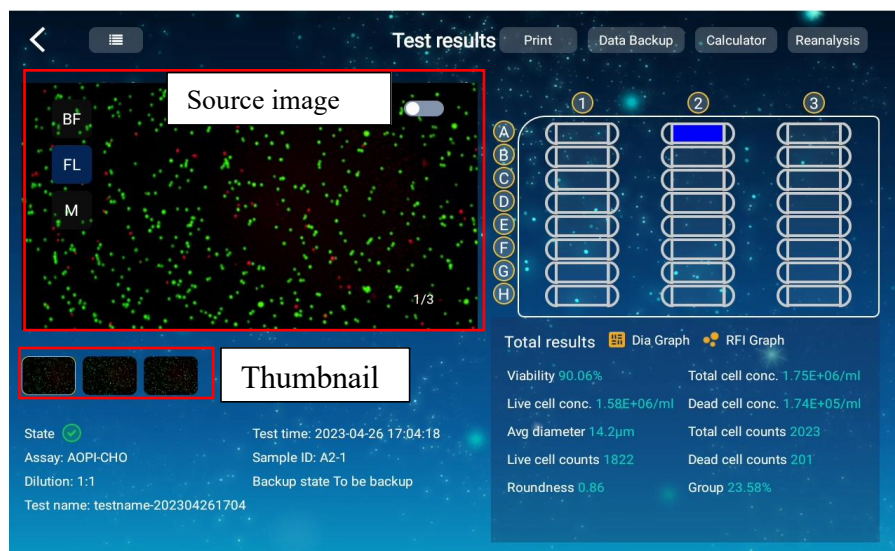
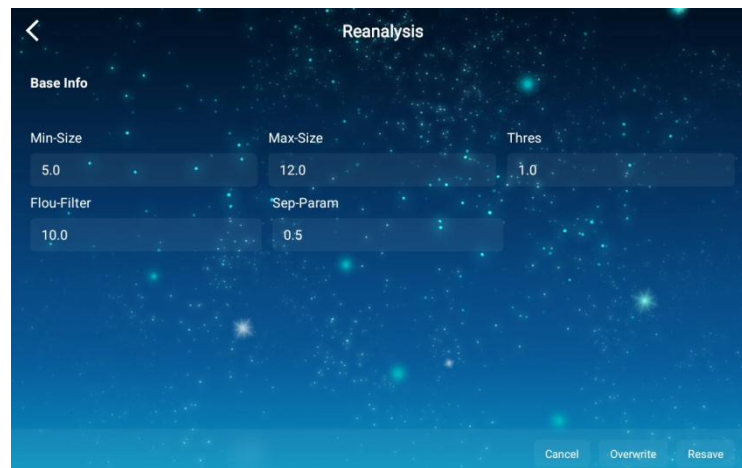
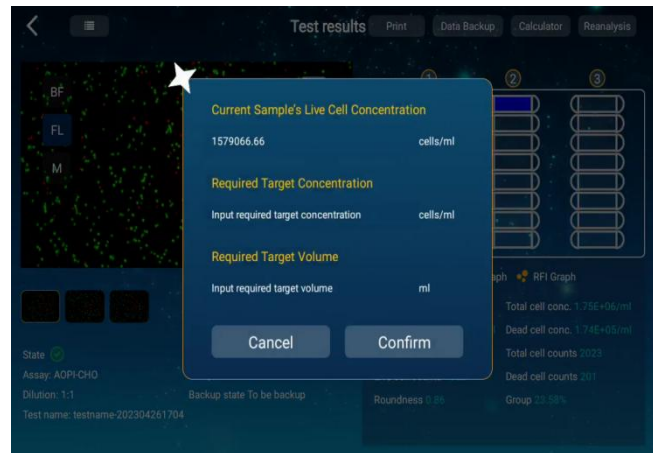
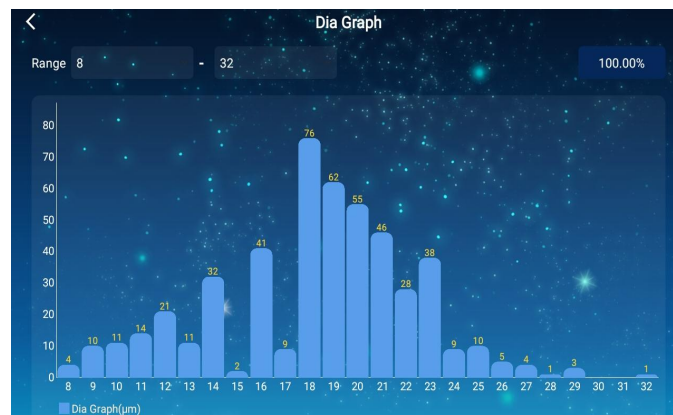

Fig. 2.26 Functional user interface of Test results
Fig. 2.28 Data Reanalysis user interface
Fig. 2.32 Calculator feature
Fig. 2.33 Diameter distribution histogram
Clicking on the eye-like "👁️" icon will open an interface to view the detailed results (see Fig. 2.26), containing the sample images on the currently selected Sample ID. In this menu, the following operations can be performed for viewing more result information in details.
- ✦ **Cell Labeling:** The slider of "Cell Labeling" at the upper right (**Fig. 2.26**) is used to activate / deactivate the cell identification marks.
- ✦ **Reanalysis:** When the user has selected one measurement record, and clicks on the "Reanalysis" icon (**Fig. 2.26**), a new menu window containing multiple parameter settings will open (see **Fig. 2.28**). This gives the user the option to test out alternative cell type parameter settings, if not satisfied with the previously achieved analysis results.
By a click on the **Calculator** icon at the upper right of the Data user interface (**Fig. 2.26**), a pop-up window will open (**Fig. 2.32**) with a dialog box to show the "Current Sample's Live Cell Concentration" of the selected sample. The fields "Required Target Concentration" and "Required Target Volume" demand for an entry of these values by the virtual keyboard (activation by a double click on the entry field). When clicking on "Confirm" the software will automatically calculate the necessary volumes of the original and diluent cell sample. The calculation results will be shown in the white bar at the bottom of the "Calculator" window. By a click on "Cancel", the software will return to the previous menu.
- ✦ **The Diameter Graph:** When the user clicks on this icon (Fig. 2.26), a diameter distribution histogram (see Fig. 2.33) of the selected sample record will be generated, displaying ranges of the cell size (μm) on x-axis, and the determined cell counts on y-axis. The user can change the sizes beside "Range" to only display a section of the complete histogram for a more detailed analysis.